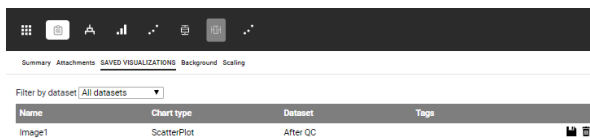

Figure 106: Saved visualizations tab under Summary on Visualizations pane
2. Select **Saved Visualizations** (see Figure 106).